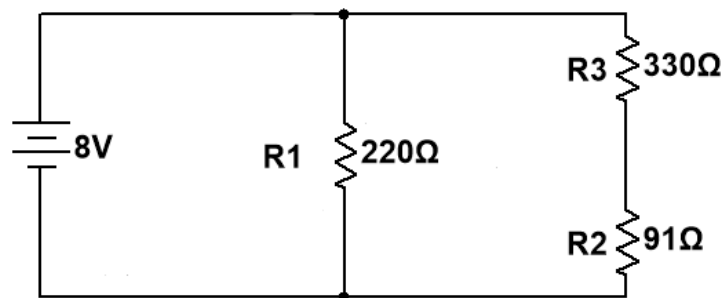

FIG 1.2
- (a) Construct the series-parallel network OF Fig 1.2, insert the measured value of each resistor next to the nominal color code.